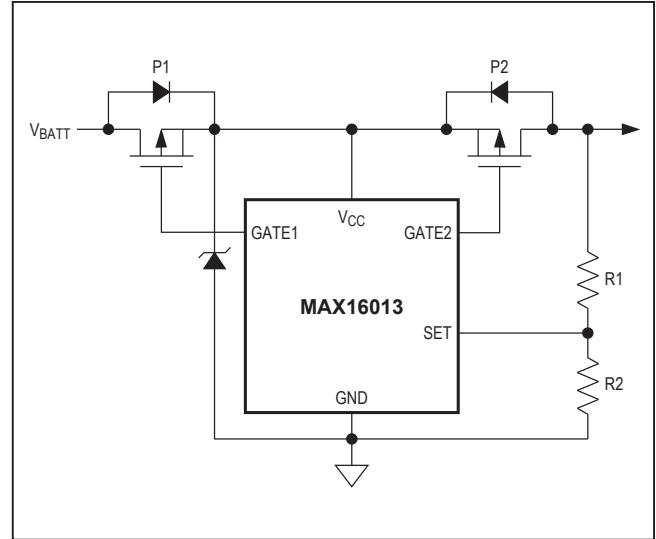

Figure 3. Overvoltage Limiter Protection
the *Typical Application Circuit*). When the programmed overvoltage threshold is tripped, the internal fast comparator turns off the external p-channel MOSFET (P2), pulling GATE2 to  $V_{CC}$  to disconnect the power source from the load. When the monitored voltage goes below the adjusted overvoltage threshold, the MAX16013 enhances GATE2, reconnecting the load to the power source (toggle ENABLE on the MAX16014 to reconnect the load). The MAX16013 can be configured as an overvoltage-limiter switch by connecting the resistive divider to the load instead of  $V_{CC}$  (Figure 3). See the *Overvoltage Limiter* section.
- Add a zener diode or transient voltage suppressor (TVS) rated below  $V_{CC}$  absolute maximum rating (Figure 3).
Most battery-powered applications must include reverse-voltage protection. Many times this is implemented with a diode in series with the battery. The disadvantage in using a diode is the forward-voltage drop of the diode, which reduces the operating voltage available to downstream circuits ( $V_{LOAD} = V_{BATTERY} - V_{DIODE}$ ). The MAX16013 and MAX16014 include high-voltage GATE1 drive circuitry, allowing users to replace the high-voltage-drop series diode with a low-voltage-drop MOSFET device (as shown in the *Typical Operating Circuit* and Figure 3). The forward-voltage drop is reduced to  $I_{LOAD} \times R_{DS-ON}$  of P1. With a suitably chosen MOSFET, the voltage drop can be reduced to millivolts.